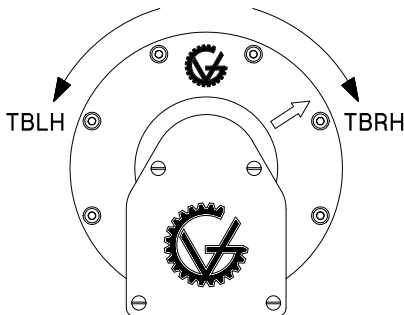

Fig. 2
1. Observe the arrow on the endcap of the drum. This indicates the direction of 'free' rotation of the drummotor (refer to Fig. 2).